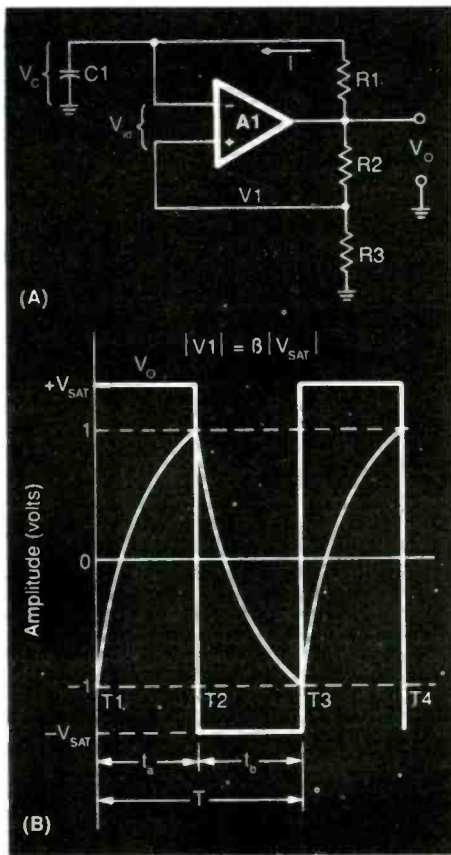
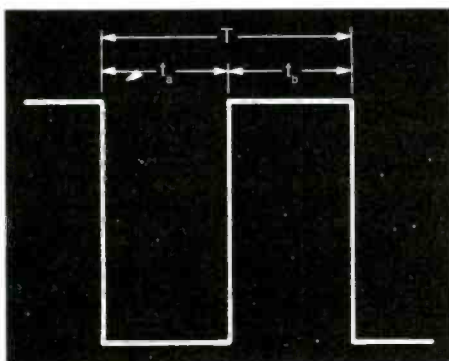
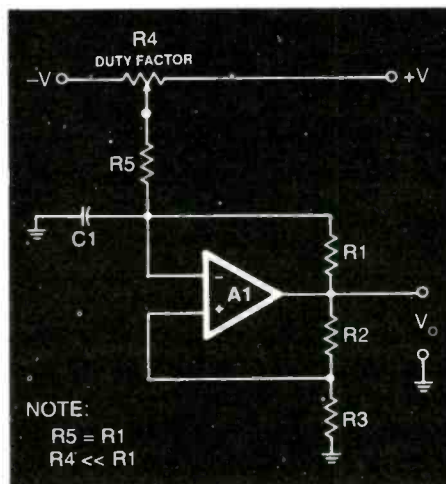
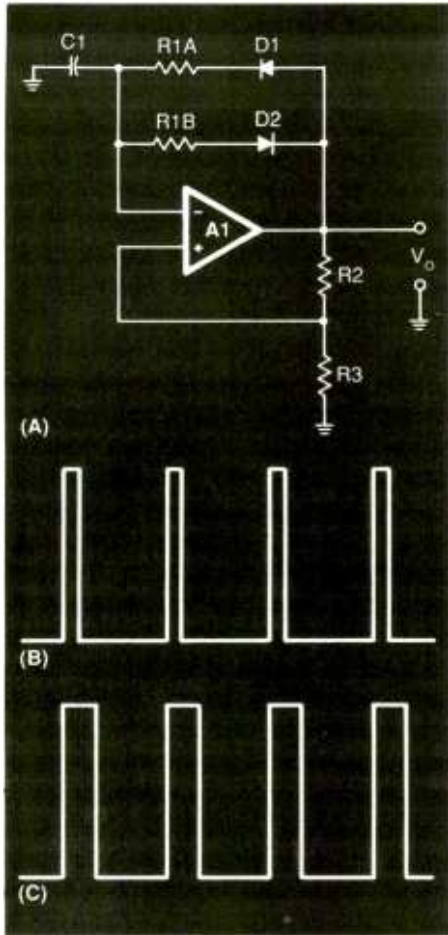

Fig. 2. (A) Circuit details for a simple op-amp square wave generator and (B) timing waveforms.
Fig. 3. Square wave train.
Fig. 4. Potentiometer provides variable duty cycle square wave.
Fig. 6. (A) Diode circuit for producing asymmetrical, but fixed, duty-cycle square wave. (B) Two different ratios of feedback resistors.
erator is shown in Fig. 2(A). The basic circuit configuration is similar to the simple voltage comparator. Operation depends upon the relationship between $V(-IN)$ and $V(+IN)$. The voltage applied to the noninverting (+) input [$V(+IN)$] is determined by the resistive voltage divider composed of $R2$ and $R3$. This voltage is shown as $V1$ in Fig. 1(A) and is calculated as follows:
Voltage $V(-IN)$ applied to the inverting ($-$) input is the potential that appears across $C1$, or V_{C1} , and is created when $C1$ charges under the influence of current I that, in turn, is a function of V_o and the $RC1$ time constant. Timing of the circuit is shown graphically in Fig. 2(B).
snaps from $+V_{sat}$ to $-V_{sat}$, which is time $t2$ in Fig. 2(B). The capacitor now begins to discharge from $+V1$ towards zero, and then recharges towards $-V1$. When it reaches $-V1$, the inputs are once again zero; so the output again snaps to $+V_{sat}$. The output continuously snaps back and forth between $-V_{sat}$ and $+V_{sat}$, thereby producing a square wave output signal.
In Fig. 2(A), the RC time constant is calculated for the R1C1 values. From Fig. 2(B), it should be apparent that for interval t_a $V_{C1} = -BV_{sat}$, $V_{C2} = +BV_{sat}$ and $V = V_{sat}$. To calculate period T, use the formula:
The circuit shown in Fig. 2(A) produces time-line symmetrical square waves ($t_a = t_b$), such as Fig. 3. If time-line asymmetrical square waves are required, a circuit like those shown in Fig. 4 or Fig. 6(A) is required.
The Fig. 4 circuit utilizes potentiometer $R4$ and a fixed resistor $R5$ to establish a variable duty cycle asymmetry. This circuit is similar to the one shown in Fig. 2(A), except offset circuit $R4/R5$ has been added. Assumptions here are that $R5 = R1$ and $R4$ is much less than $R1$. If V_a is the potentiometer output voltage, $C1$ charges at a rate equal to $(R1/2)C1$
The circuit shown in Fig. 6(A) also produces asymmetrical square waves, but the duty cycle is fixed instead of being variable. Once again, the basic circuit here is like that shown in Fig. 2(A), except that it has added components. In Fig. 6(A), the RC timing network is altered in such a manner that the resistors are different on each swing of the output signal. During t_a , $V_a = +V_{sat}$; so $D1$ is forward biased and $D2$ is reverse biased. For this interval:
Equation [20] defines the oscillation frequency of the Fig. 6(A) circuit. Figures 6 shows the effects of two